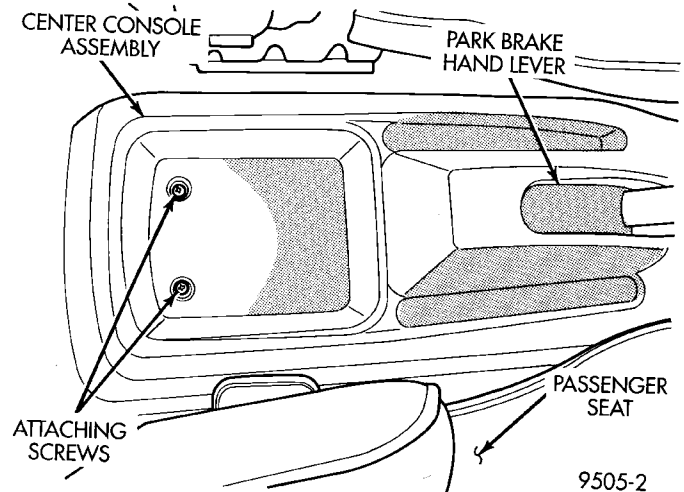
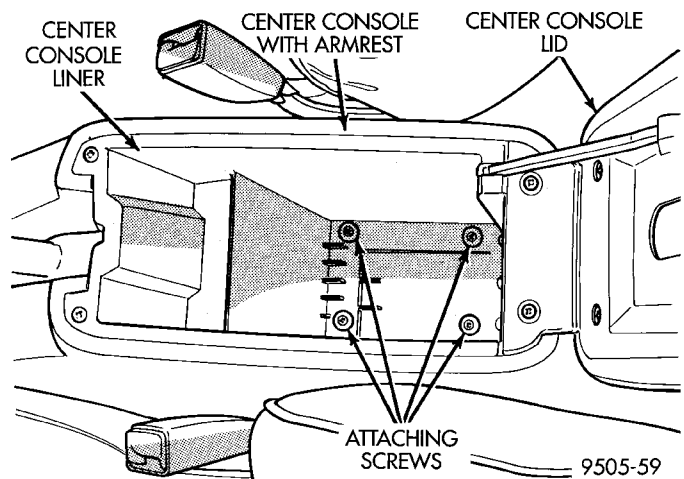

Fig. 43 Attaching Screws At Rear Of Center Console W/O Arm Rest
Fig. 44 Attaching Screws At Rear Of Center Console With Arm Rest
- (1) Remove screws attaching rear of center console assembly to console bracket (Fig. 43) or (Fig. 44).
(4) Install center console.
(5) Install the 4 console assembly attaching screws (Fig. 43) or (Fig. 44).
(6) Cycle park brake lever once to position park brake cables. Then return the park brake lever its released position. Check the rear wheels of the vehicle, they should rotate freely without dragging.